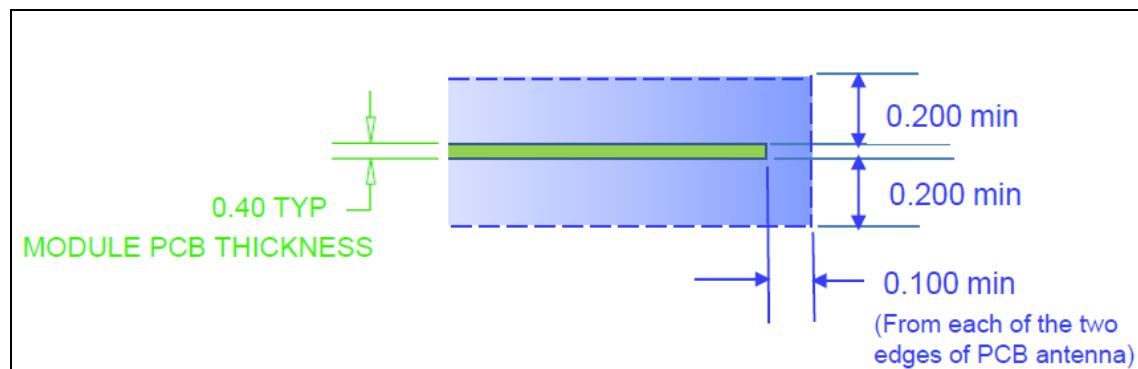

Figure 5-7 Recommended clearance above and below the GS1011MxP trace antenna
- The PCB antenna keep out area, as shown in Figure 5-4, must be adhered to. In addition it is recommended to have clearance above and below the PCB trace antenna (Figure 5-7) for optimal range performance.
- Recommendation is to keep plastic enclosure clearance of 1cm from top and bottom of the GS1011M PCB antenna keep-out area, if possible. 5-mm (0.2 in) clearance shall be the minimum as shown in Figure 5-7.